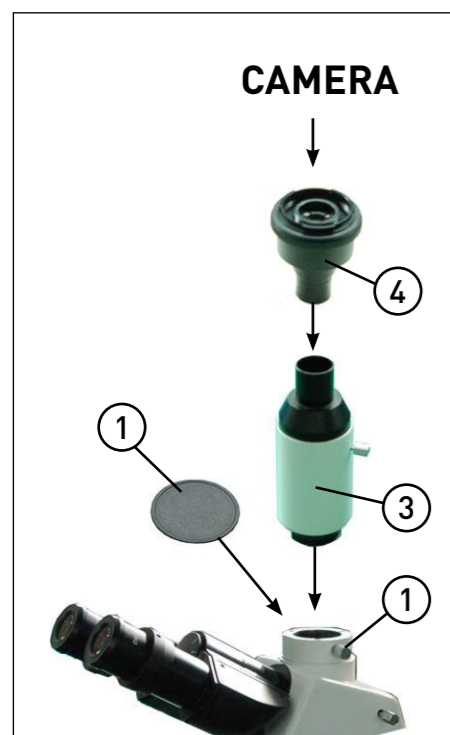

FIGURE 33
6.2.2 Installing the photography set (Fig. 33)